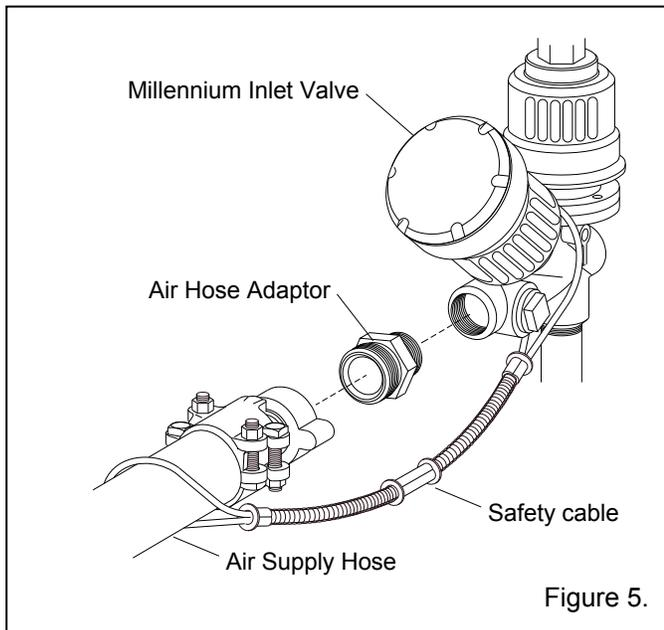

Figure 5.
2.4.1 Apply thread sealant to the male pipe threads of an air fitting that is compatible with the air supply hose fitting, as noted in Section 2.4.2, and install it onto the 1-1/2 NPT air filter located at the blast machine inlet, or the Millennium inlet valve, as shown in Figure 5. **Note** that the style of connection shown in Figure 5 is for reference only.